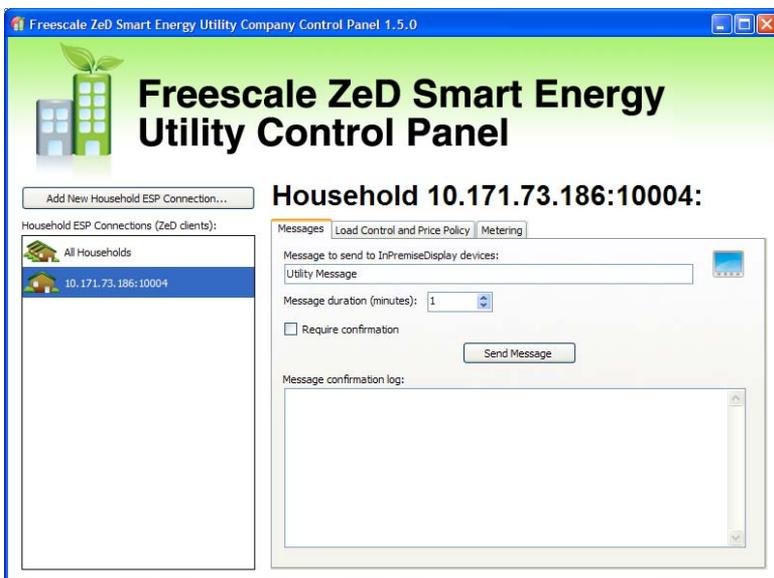

Figure 21. Sending a Message to the ZeD server from the Utility Control Panel
5. If the connection to the server is successful, the ZeD server is added as a new household in the list on the left side of the Control Panel window. Select the server entry in the list and using the controls on the right side of the Control Panel, control or obtain information about the Smart Energy devices running on the ZeD server as shown in Figure 21.